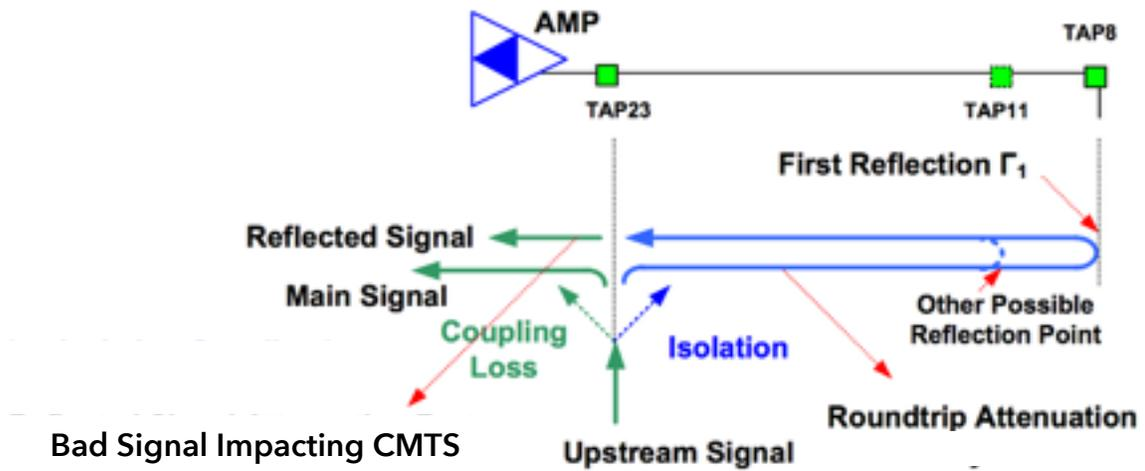
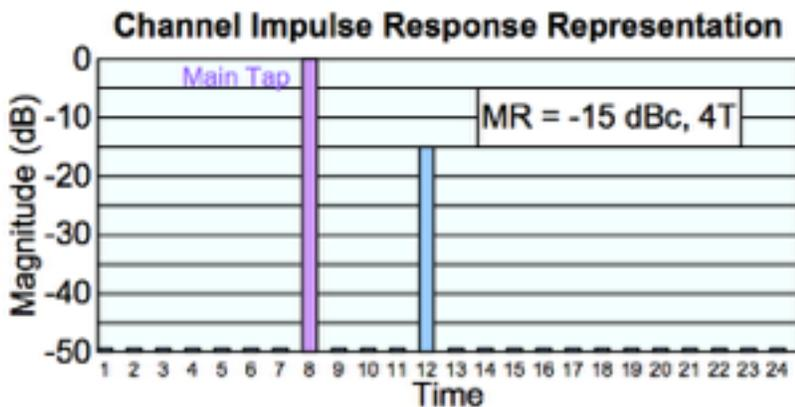

Figure 1: Reflected Cable Modem Signal (Source: CableLabs)
Figure 2: Pre-EQ Taps for Modem with Impairment in Figure 1
As the reflected signal propagates on the downstream it will eventually hit another active or passive device that will not pass upstream signals on the downstream. This will then reflect the original reflected signal back towards the CMTS in the direction it was originally meant to go. See Figure 1 for an illustration of how this works in theory.
Note: it is important to understand the difference between a 'physical tap' as in Tap 23 or Tap 11 shown in figure 1. These are used to drop coaxial cables to subscriber's homes and digital signal processing taps also called equalizer taps as shown in figure 2.
Analyzing figure 1 we see that physical Tap 23 is the source of the impairment. Some of the "main signal" is able to pass through physical Tap 23, however some signal is reflected by Tap 23 and reverses direction on the coax, now heading in the downstream direction. When it hits physical Tap 8 the reflected signal is prevented from going any further downstream because Tap 8 is assumed to have electronics inside not allowing upstream signals to travel on the downstream (often this may be an active device such as an RF amplifier). The blue line shows the round trip distance, which is twice the span of the coaxial cable. The corresponding equalizer response for the Figure 1 is shown in figure 2 below:
Figure 2 is an idealized tap response that shows one reflection at pre-eq tap 12. This must not be confused with physical Tap 23 and physical Tap 11, which are mainline passive devices in figure 1. The
Since pre-eq tap 12 is elevated we can estimate the distance to the impairment as four (4) taps after the main pre-eq tap (tap 8) as shown on the chart in figure 2. If the upstream DOCSIS channel is 3.2 MHz then each pre-eq tap represents approximately 170 feet, while if the upstream channel is 6.4 MHz each pre-eq tap represents approximately 85 feet.
Notice that the vTDR not only reports the impairment distance, but also indicates if the impairment is an 'open' or a 'short'. First consider the example in figure 1. The vTDR is telling us that distance from physical Tap 11 to physical Tap 23 (the impairment) is 777 ft. Next it is telling us that the source of the impairment is an 'Open'. What does an Open condition mean? See the tip chart on the left.